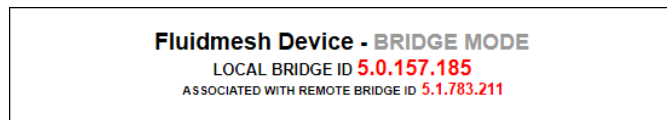

Figure 40. Configurator interface (Unit ID information)
- The unit ID number of the local unit is shown as the **LOCAL BRIDGE ID** (Figure 40 (page 104)).